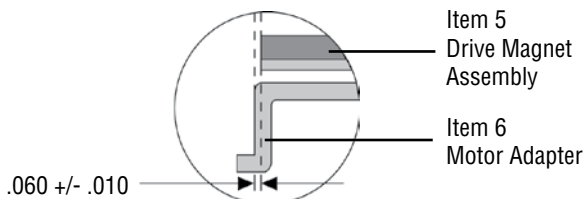
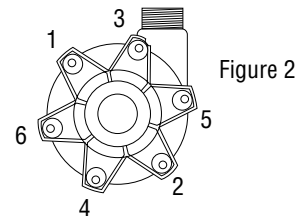

Figure 1
Figure 2
4. Remove drive mag assembly (item 5) from box and slide assembly onto motor shaft making sure shaft key (item 12) is in place. Installation dimension is .060 +/- .010 inches as shown in Figure 1. Tighten 2 set screws (item 5A) to 228 in-lbs. (25.8 N-m).
5. Gripping the discharge and the side of the impeller housing (note above warning), carefully install the wet end into the motor adapter. Note that the two housing studs (item 15) should be located at 3 and 9 o'clock (for 12 o'clock discharge location) and will go through the motor adapter.
6. Install the 5/16 x 3/4 SS hex bolts (item 7), the 5/16 flat washers (item 9), and the 5/16 hex nuts (item 8) and tighten to 70 in-lbs. of torque using the pattern shown in figure 2.